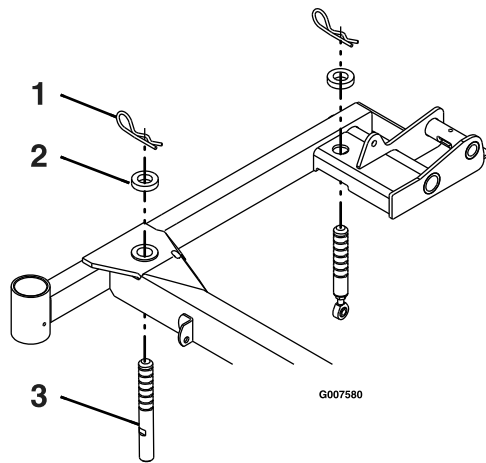

Figure 77
4. Verify that all hairpin cotters are in the 7.62 cm (3 inch) mower-deck-height holes with the spacers under the hairpin cotters (Figure 77).
5. Shorten or lengthen each mower deck support pin to obtain blade tip height of 7.62 cm (3 inches) at the front of the deck and 8.26 cm (3 1/4 inches) at the rear of the deck (Figure 77).